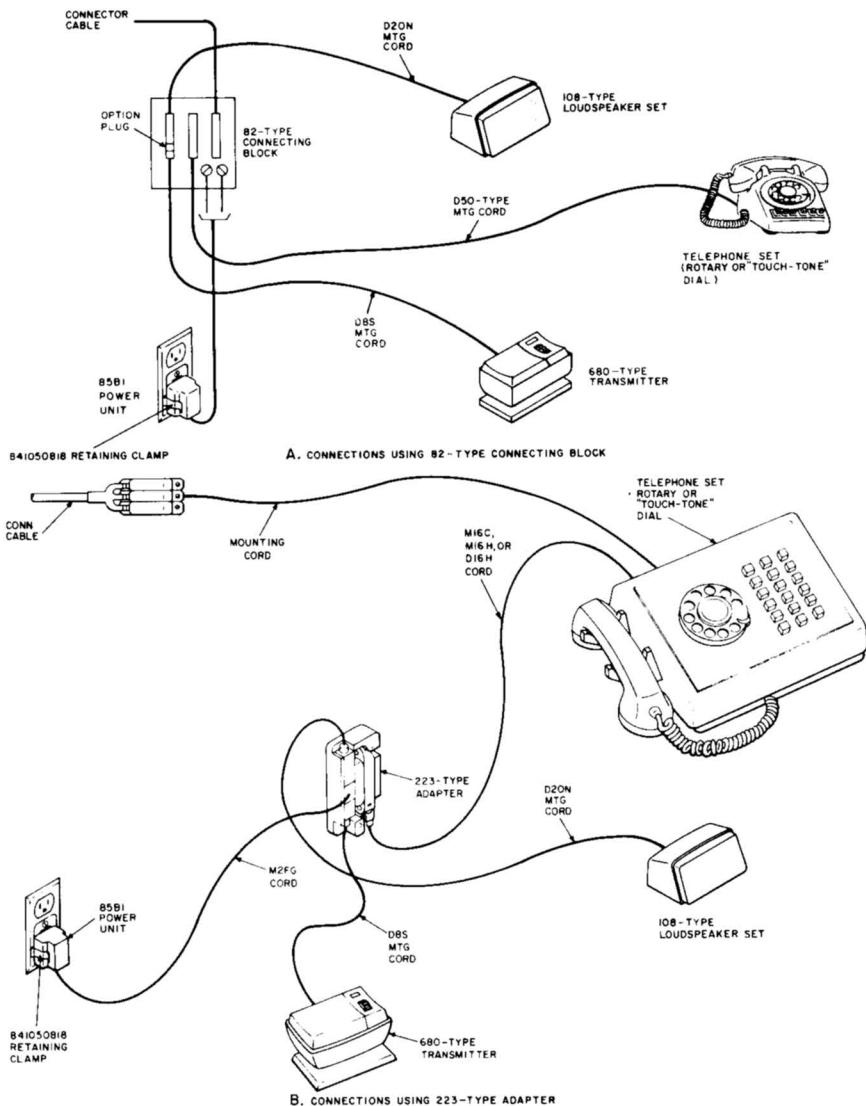

Fig. 1—Typical Arrangements of 4A Speakerphone System
2.23 A retaining clamp (841050818) (Fig. 1 and 2) will be shipped with the 85B1 power unit.
3.04 A retaining clamp (841050818) (Fig. 1 and 2) should be mounted to the ac receptacle to hold the power unit securely and to prevent accidental loss of power.